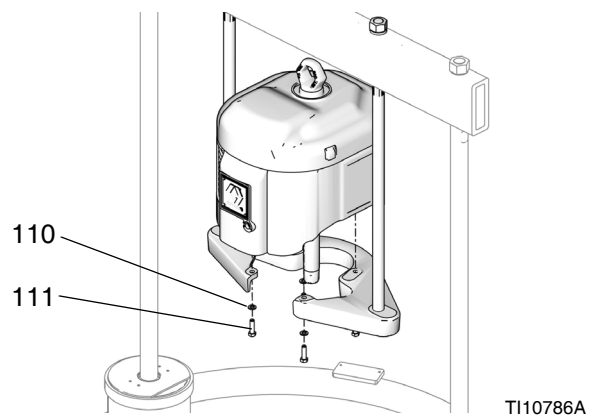

Fig. 26: NXT on D200 with Small Platen
4. Position mounting plate (109) to ensure top of motor will clear the crossbar. See FIG. 26. Using a capable hoist, attach motor to mounting plate (109) using screws (111) and washers (110).